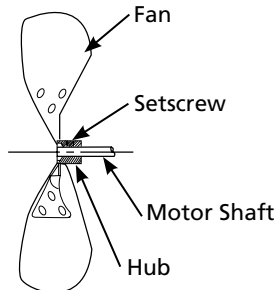

Figure 7 – Fan Cross Section
9. Making sure that the setscrew lines up with the flat spot on the motor shaft, replace fan as shown in Figure 7. Tighten setscrew firmly (be careful not to overtighten).